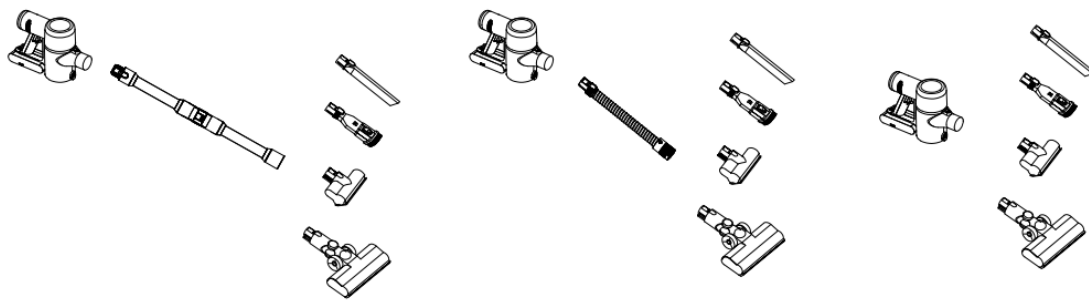

Figure 8
1. Select the appropriate accessories according to the cleaning needs to insert the main unit suction position to ensure that the installation is in place(Figure 8).